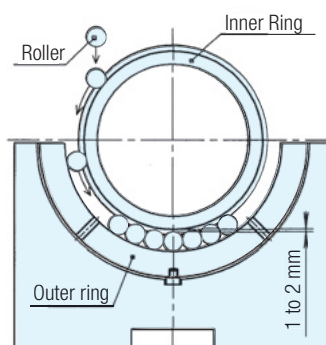

Fig. 16 Installation of Rollers for Lower Half of Bearing
- (1) After the lower half of the housing has been set, place rollers between the raceway surfaces of the inner and outer rings. Apply as much grease as possible to rollers. Fit in rollers one by one between the raceway surfaces of the inner and outer rings. Insert them while sliding the raceway surfaces (see Fig. 16).